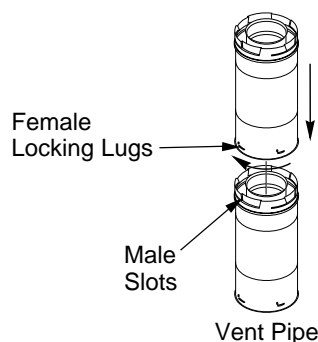

Figure 26 - Vent Pipe Connections
Twist-lock Procedure: The female ends of the pipes and fittings have four locking lugs (indentations). These lugs will slide straight into matching slots on the male ends of adjacent pipes and fittings. (All connections must be sealed with high temperature silicone sealant as specified in the second warning statement on page 12.) Push the pipe sections together and twist one section clockwise approximately one-quarter turn until the sections are fully locked. See Figure 26. *Note:* Horizontal runs of vent must be supported every three feet. Use wall straps for this purpose.
2. Assemble the desired lengths of pipe and elbows necessary to reach from the burner system flue up through the firestop. All connections must be sealed with high temperature silicone sealant as specified in the second warning statement on page 12. Be sure all pipe and elbow connections are fully twist-locked (see Figure 26, page 13).